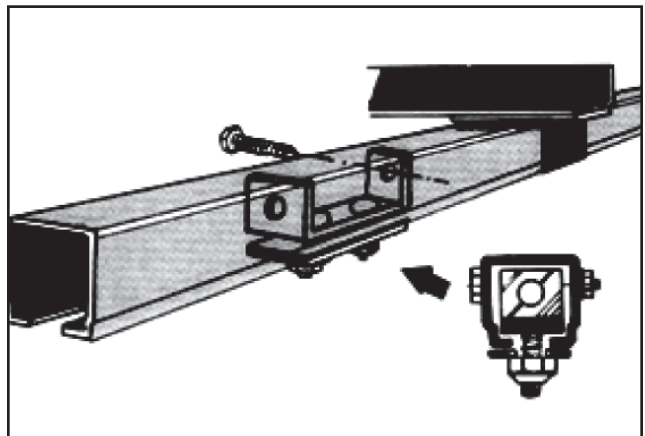

Figure 9-3
1. Install and tighten the end clamp and end stop(s) firmly in place. Torque fasteners for 11 ft/lbs. See **Figure 9-3**.